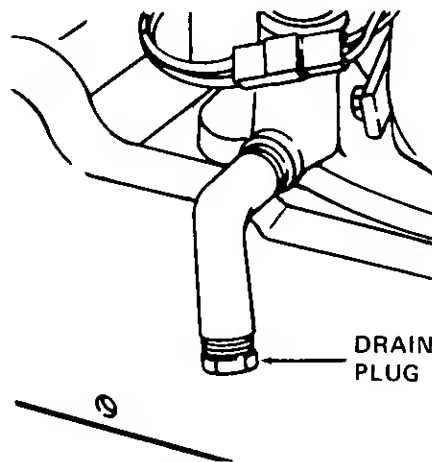

Figure 26
1. Place the tractor on a level surface, and engage brake pedal lock. Remove the drain plug and collect the old oil in an adequate container. (Refer to Figure 26.)